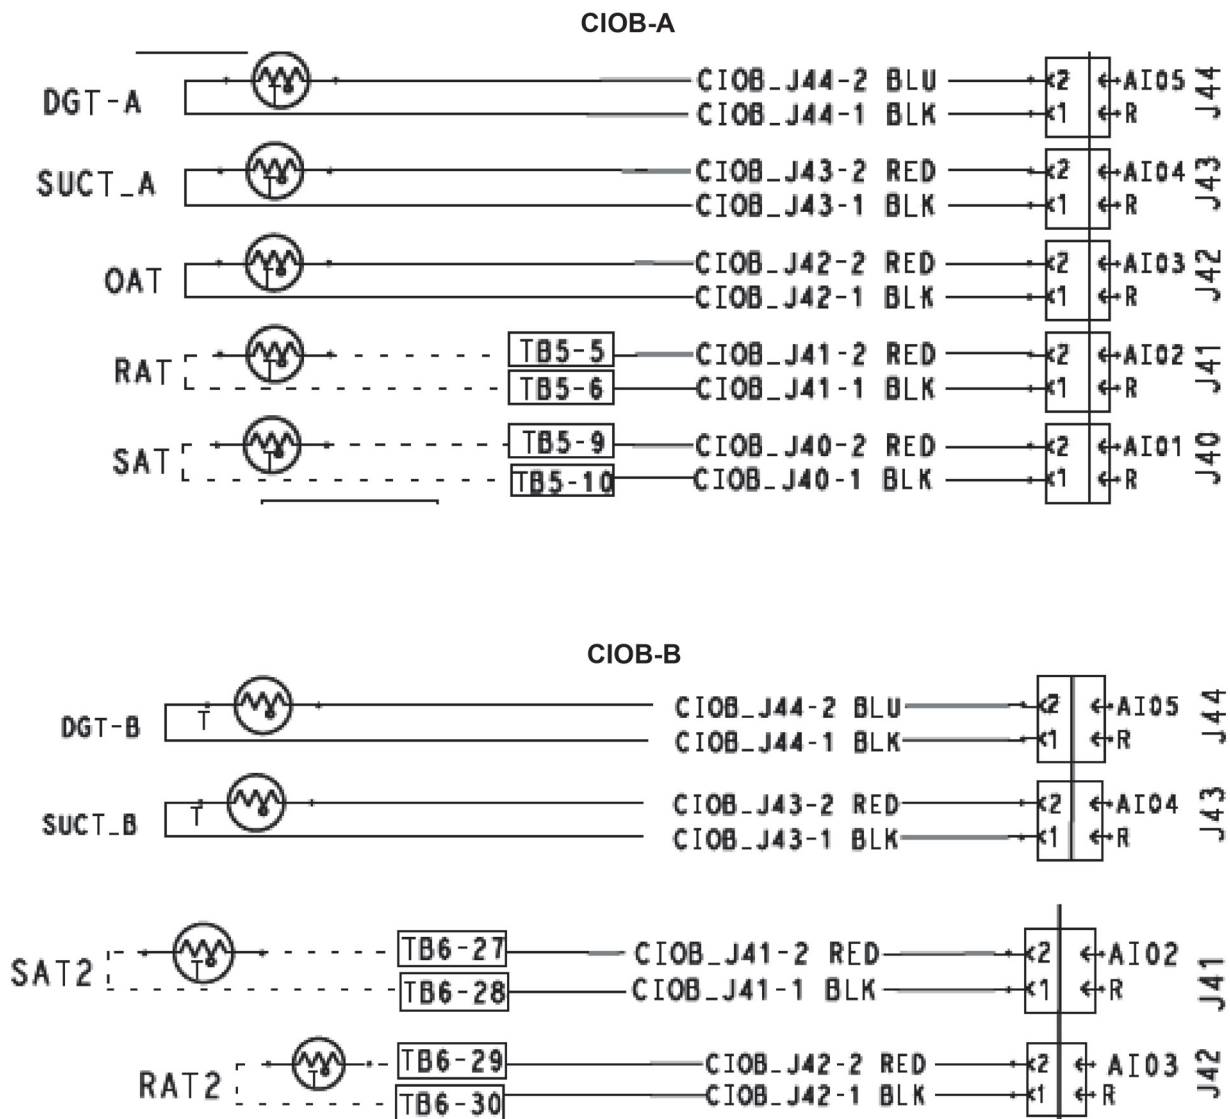

Fig. 165 — Typical CIOB Thermistor Connections
Several styles of thermistors are used in the 38RC units. See Thermistors on page 39 for specific information on each thermistor. Thermistor connections are made to the CIOB. See Fig. 165.
1. Connect the digital voltmeter across the appropriate thermistor terminals at the CIOB terminals. See Fig. 165.